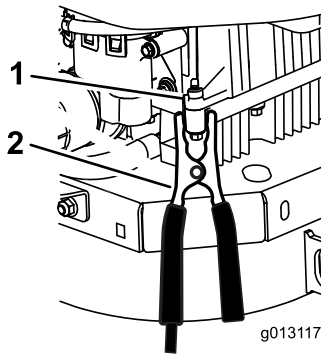

Figure 58
6. **Make the final connection on the engine block of the stalled vehicle (NOT to the negative battery post) away from the battery and stand back (Figure 58).**